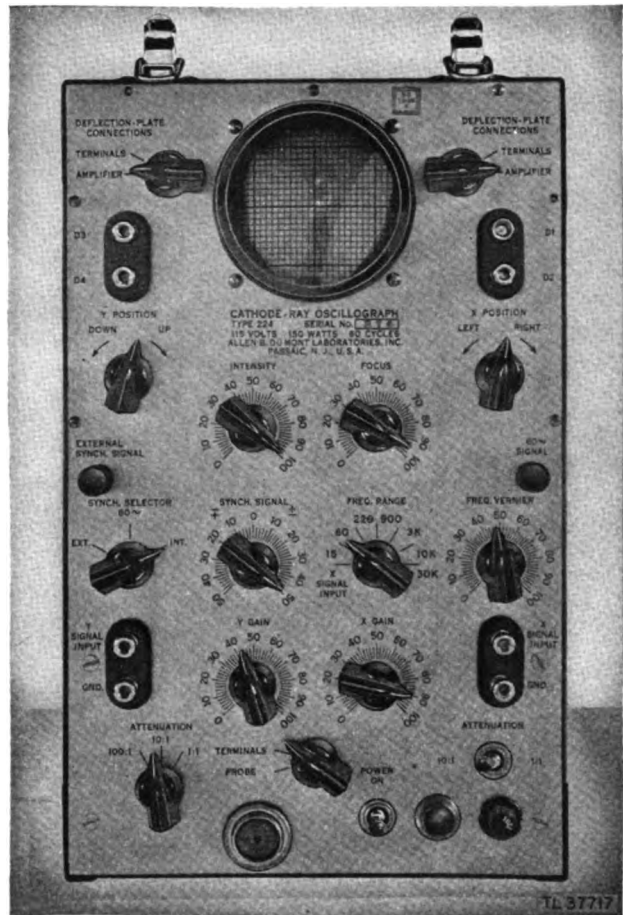

Figure 37. Test scope—front panel.
(2) *To replace test scope in case.* Reverse the procedure in (1) above.
**ITCA. FRONT PANEL OF SCOPE** (fig. 37).
(1) Inspect the switches and potentiometers for proper mechanical action (pars. 28 and 31).
(2) Inspect the pilot light for cracked shield.
(3) Inspect for presence and condition of fuse (par. 25).
(4) Tighten all knobs and mounting screws where necessary.
(5) Clean front panel and face of cathode-ray tube.
(6) Adjust plastic screen on face of cathode-ray tube for proper centering.